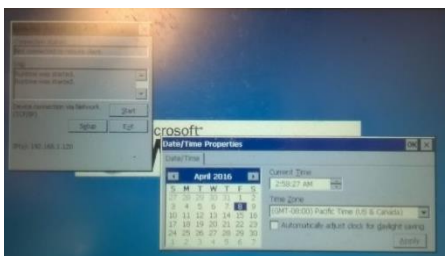

Figure 22. Adjusting Date and Time
- 11) Make any necessary adjustments to the date, hour and/or minute value(s) (Figure 22).